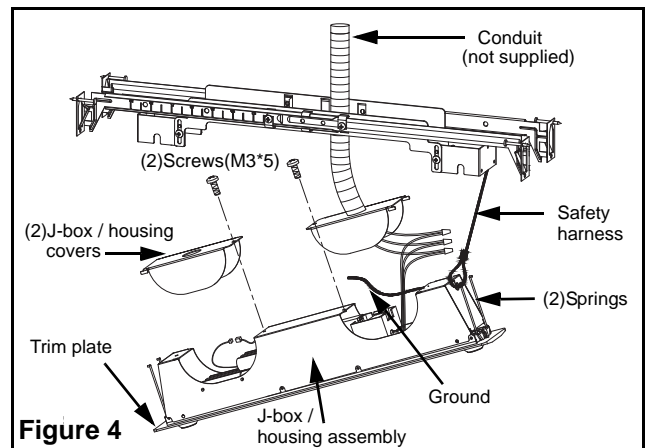

Figure 4
3. Adjust height of bracket vertically using adjusting slots and tighten all screws on adjusting slots and bar hanger bracket to secure bar hanger bracket and bar hanger to the housing. Ensure bar hanger assembly is flush to the surface (see fig.4).
5. Remove the knockout on the j-box cover where the AC power will enter and install AC conduit leaving 6 inches of wire (see fig.4).
6. Attach safety harness to the j-box / housing assembly (see fig.4).